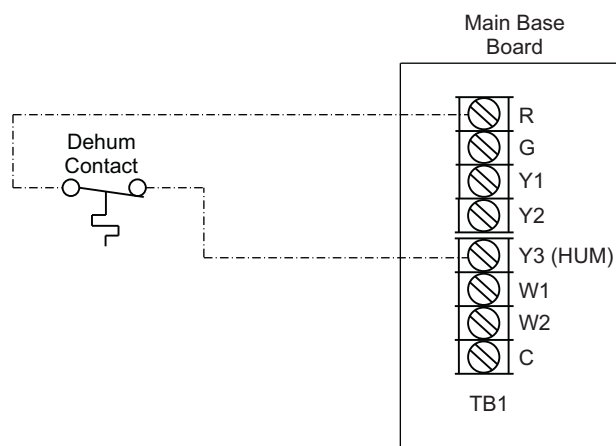

Fig. 42 — Humidistat Connections to MBB (SystemVu Units)
3. For SystemVu controller units connect one of the leads from the 2-conductor cable to the Y3 (HUM) terminal on the MBB (Main Base Board). Connect the other lead to the R terminal on the MBB. See Fig. 42.